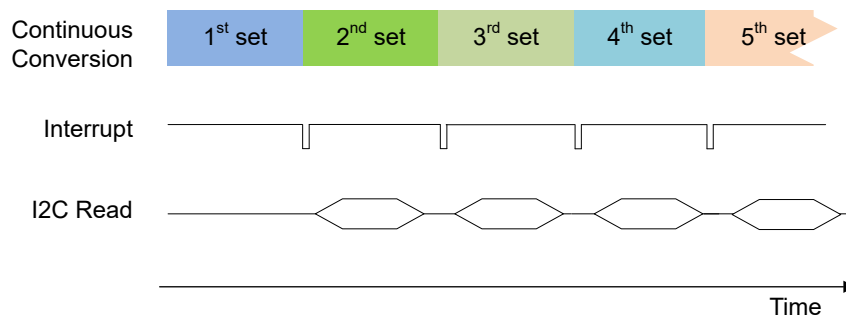

图 8-10. Continuous Conversion With AC Line Power
- Wait for the $\overline{\text{INT}}$ signal assert low to indicate conversion complete. When $\overline{\text{INT}}$ goes low, perform the 16-bit T, X, Y, Z register read with one single read command (see 图 8-10).